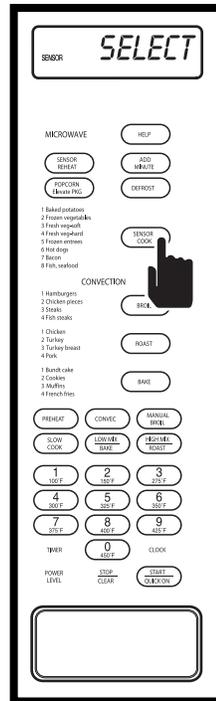

Figure 3-56.
1. Press SENSOR COOK key. The display will flash "SELECT - FOOD - NUMBER". (See Figure 3-56).